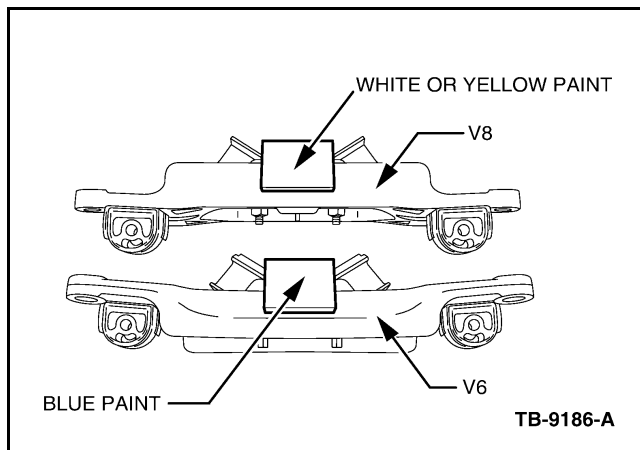

Figure 1 - Article 08-23-4
1. Inspect the transmission crossmember assembly orientation. (Figure 1)
EXHAUST MOUNTS AND ISOLATORS, SHOWN IN FIGURE 1, WERE PRODUCTION ASSEMBLY AIDS AND ARE NOT REQUIRED. THEY WERE DELETED ON VEHICLES BUILT AFTER 12/03/2007 AND MAY HAVE ALREADY BEEN REMOVED PER TSB 08-3-4.
5. Orient the original transmission crossmember to match engine. (Figure 1)
6. Install new engine-specific transmission support insulator (transmission mount) onto transmission crossmember. (Figure 1)